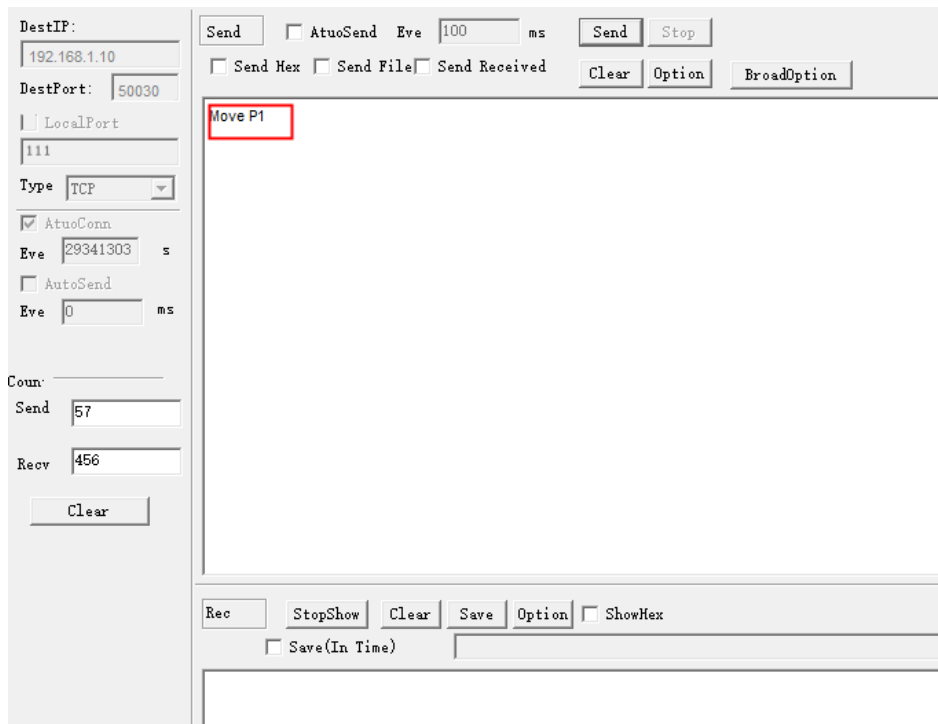

Figure 6.63 Send commands on the client
Step 4 Send **MoveP1** command in the sending section of the client, as shown in Figure 6.63.